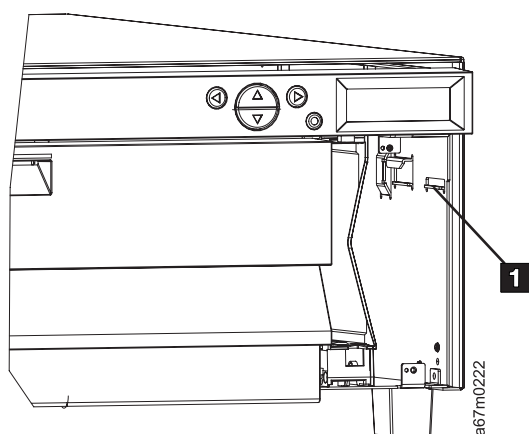

Figure 107. Bar Code Scanner Guide
- ___ 6. Slide the plastic tab on the right side of the I/O door bracket (see Figure 107 on page 227) into the metal guide (**1**) inside the library while ensuring the cable stays routed as shown in Figure 107 on page 227.